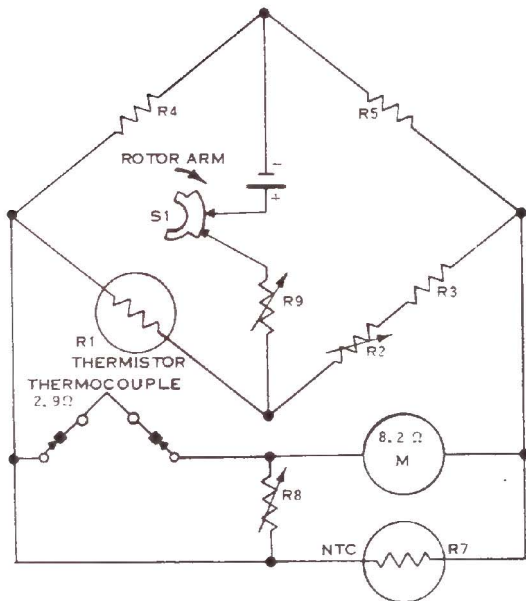

Figure 5-2. Simplified Diagram of Compensating Circuit
5.3.1 Figure 5-2 shows the bridge circuit function when the switch is in the READ position. Any variation in temperature away from 80°F changes the resistance of the thermistor and unbalances the bridge. The polarity and amount of voltage difference between the two contacted points sends current from the battery through the meter, which in turn deflects the pointer in the direction and amount to correct the meter indication.